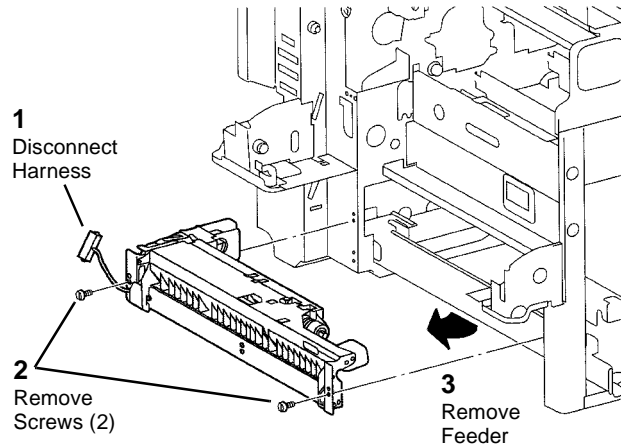

Figure 1 Removing Tray 1 Feeder
3. Remove Tray 1 Feeder (Figure 1).